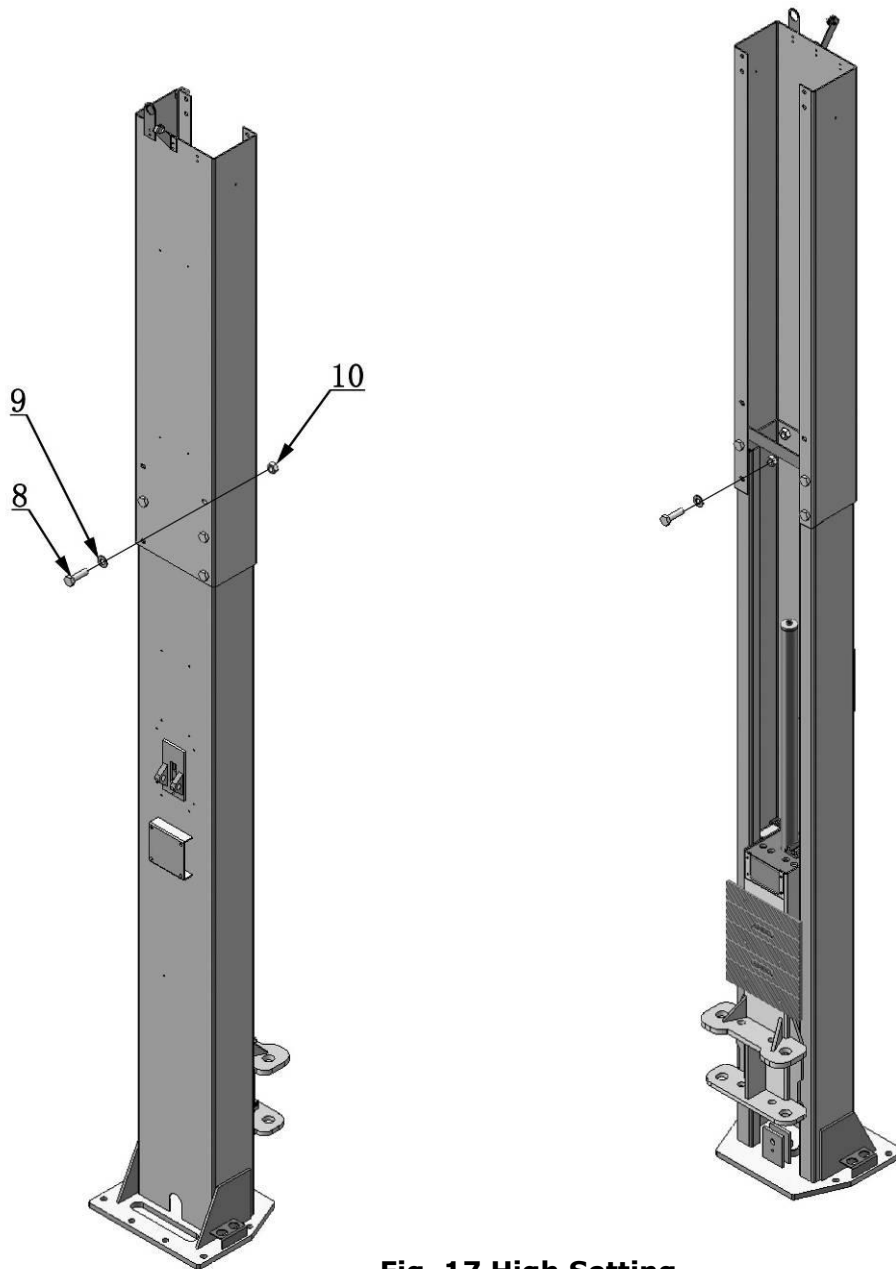

Fig. 17 High Setting
1. When the ceiling height is over 177-1/8", connecting the extension columns with the lower holes (**See Fig. 17**).